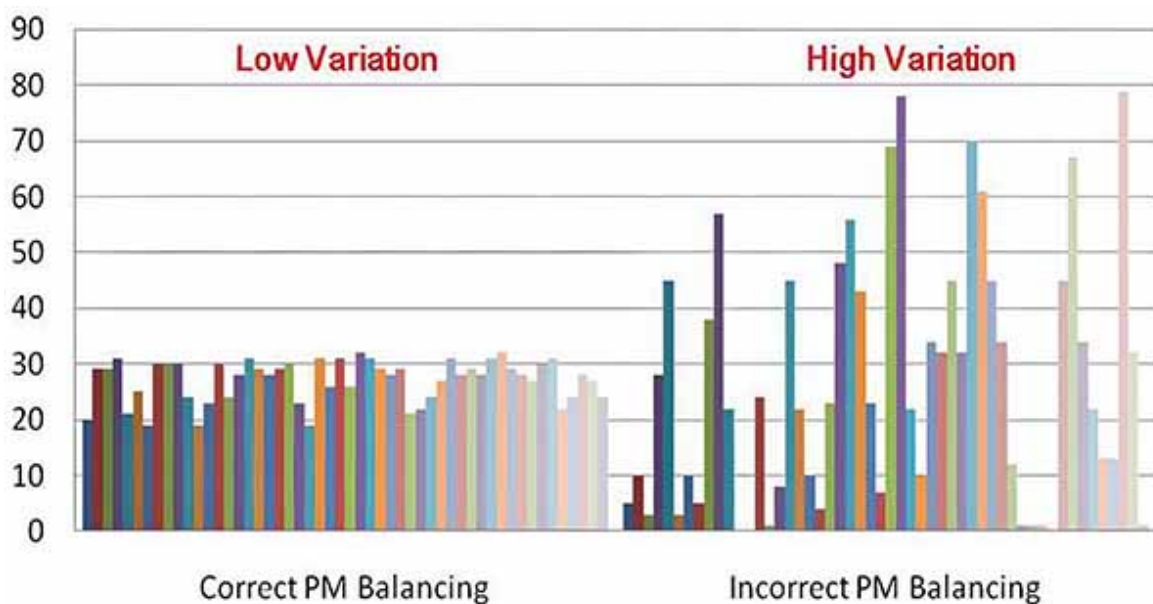

Figure 3: Balancing Your PM Execution for the Year (Sample)
4. Are PMs executed with PM variation? For example, a 30-day PM may be accomplished on the 3rd of the month this month and on the 20th of the month next month, resulting in equipment problems. PM is a “controlled experience” and, as such, requires repeatable, effective, and on-time procedures. (See Figure 3.)